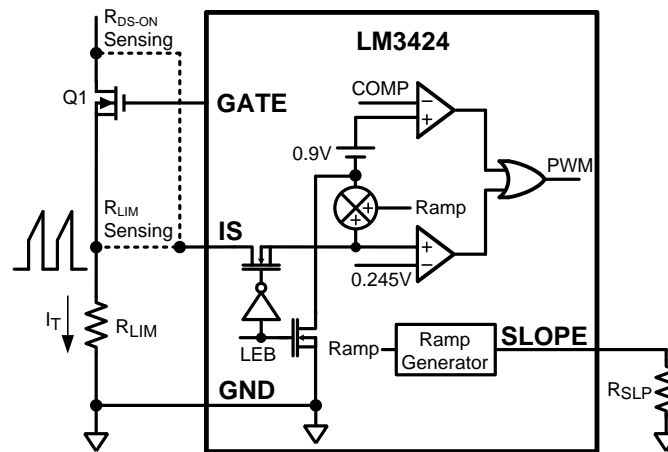

Figure 25. Current Sense / Current Limit Circuitry
The LM3424 achieves peak current mode control using a comparator that monitors the main MosFET (Q1) transistor current, comparing it with the COMP pin voltage as shown in Figure 25. Further, it incorporates a cycle-by-cycle over-current protection function. Current limit is accomplished by a redundant internal current sense comparator. If the voltage at the current sense comparator input (IS) exceeds 245 mV (typical), the on cycle is immediately terminated. The IS input pin has an internal N-channel MosFET which pulls it down at the conclusion of every cycle. The discharge device remains on an additional 240 ns (typical) after the beginning of a new cycle to blank the leading edge spike on the current sense signal. The leading edge blanking (LEB) determines the minimum achievable on-time (t_{ON-MIN}).
Looking at Figure 25, the positive PWM comparator input is the IS voltage, a mirror of I_L during t_{ON} , plus a typical 900 mV offset. The negative input of the PWM comparator is the COMP pin which is proportional to I_C , the threshold at which the main MosFET (Q1) is turned off.
The LM3424 mitigates current mode instability by implementing an artificial ramp (commonly called slope compensation) which is summed with the sensed MosFET current at the IS pin as shown in Figure 25. This combined signal is compared to the COMP pin to generate the PWM signal. An increase in the ramp that is added to the sense voltage will increase the maximum achievable duty cycle. It should be noted that as the artificial ramp is increased more and more, the control method approaches standard voltage mode control and the benefits of current mode control are reduced.